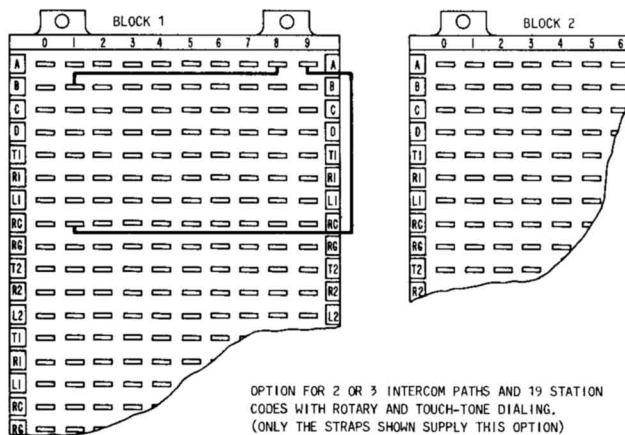

Fig. 9—S Option
4.04 The S option (Fig. 9) provides for two or three intercom paths with 19 station codes. Stations can utilize both rotary and TOUCH-TONE dialing. Digit 1 is used as the transfer digit and is not available for a station code. Station codes 10 through 19 are connected to row C, terminals 0 through 9 on block 1 of the 626A panel (Fig. 4).